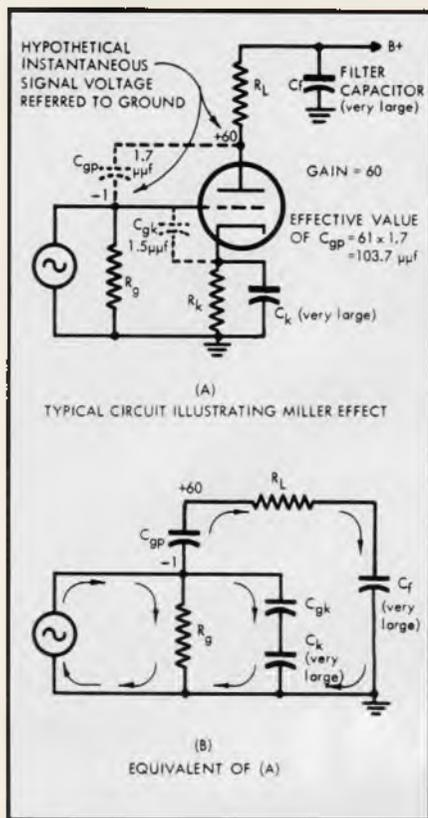

FIG. 10. Operation of Miller Effect.
Figure 10 helps explain Miller Effect. The signal source is assumed to have an instantaneous value of -1 volt. Tube gain is assumed to be 60, so that the instantaneous a.e. voltage appearing at the plate, referred to ground, is +60 volts. Therefore a 61 volt potential appears across the capacitor. Signal current flows through all impedances connected between grid and ground, taking the various paths shown at (B) in Fig. 10, which is the equivalent circuit of (A). One path is through the grid resistor. Another path is through the grid-cathode and other stray capacitances. A third path is through the capacitance between grid and plate.
The physical grid-plate capacitance of a 12AX7, employed for illustration in Fig. 10, is of the order of 1.7  $\mu\text{f}$ . However, a capacitor accepts a charg-
ing current directly proportional to the voltage across the capacitor. Thus 61 volts across capacitor  $C_{gp}$  results in 61 times as much charging current as a 1-volt potential. In other words, the 1.7  $\mu\text{f}$  capacitor in Fig. 10 effectively becomes a 103.7  $\mu\text{f}$  capacitor. Accordingly, at high frequencies an appreciable amount of signal current must flow through the grid-plate capacitance; this is equivalent to a reduced impedance across the signal source, resulting in less of a voltage drop across this impedance. The apparent multiplication of grid-plate capacitance is called Miller Effect.